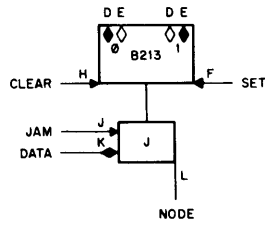

Figure 4-6 B213 With Negative Data Input
**APPLICATIONS:** Redefining the B213 output pins provides a jam (C-D) flip-flop with a negative data input. (See Figure 4-6.)